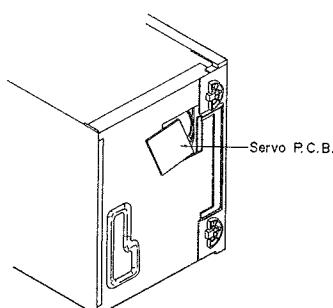

Fig. 3
5. When checking the soldered surface of the servo P.C.B. and replacing the parts, do as shown in the fig. 3.